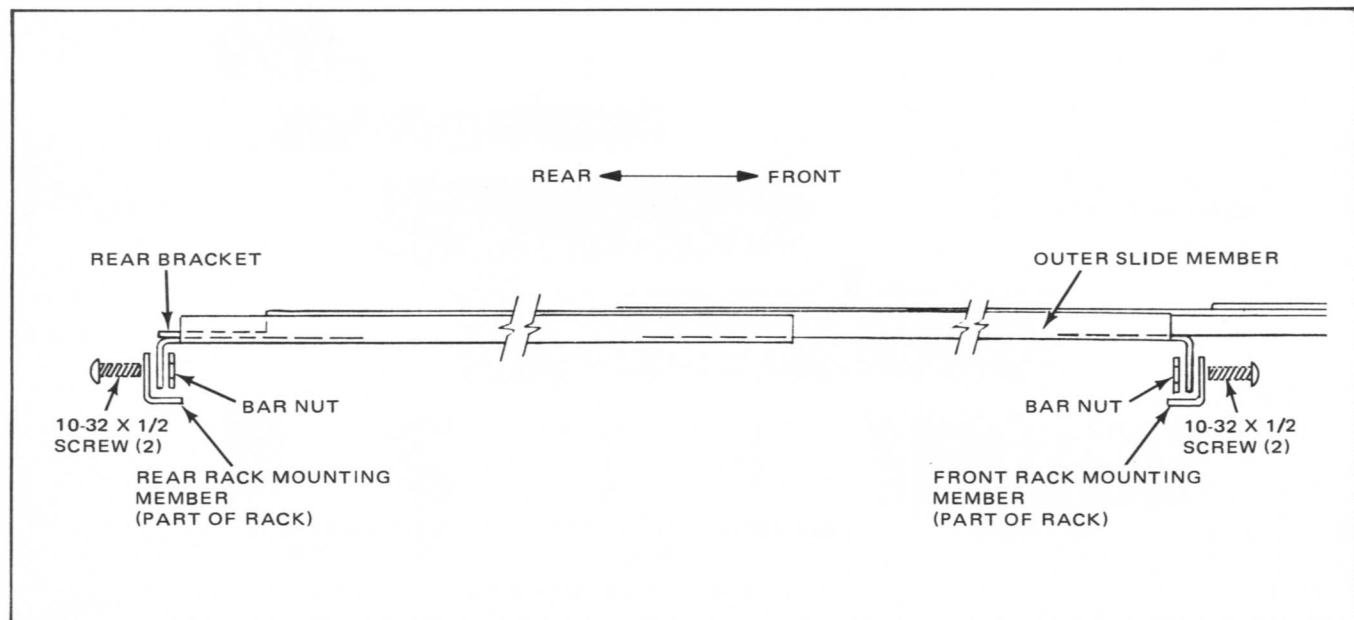

Figure 2-9. Left Hand Slide, Top View
6. Determine desired vertical mounting location on 19-inch rack. Fasten a threaded bar nut to each front rack-mounting member (Figure 2-9). Orientate the bar nut so that the offset holes in the bar nut are nearest the center of the rack. Use two 10-32 X 1/2 inch long
7. Mount a threaded bar nut on each rear rack-mounting member (Figure 2-9) in parallel to the bar nuts installed in step 6. Orientate the bar nut so that the offset holes in the bar nut are nearest the center of the rack. Use two 10-32 X 1/2 inch long screws for each bar nut but do not firmly tighten screws.
9. Slide the slotted flange of each rear bracket between the rear rack-mounting member (Figure 2-9) and the bar nut installed in step 7. Tighten screws.